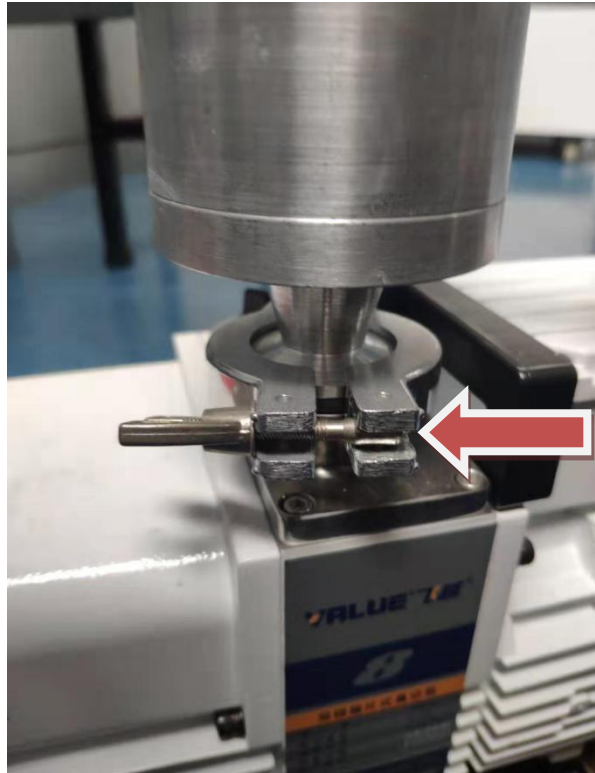

Figure 3-16 Larger seal
Step 5 The other end of the filter bottle is connected to the vacuum pump. A larger seal is required, as shown in Figure 3-16: